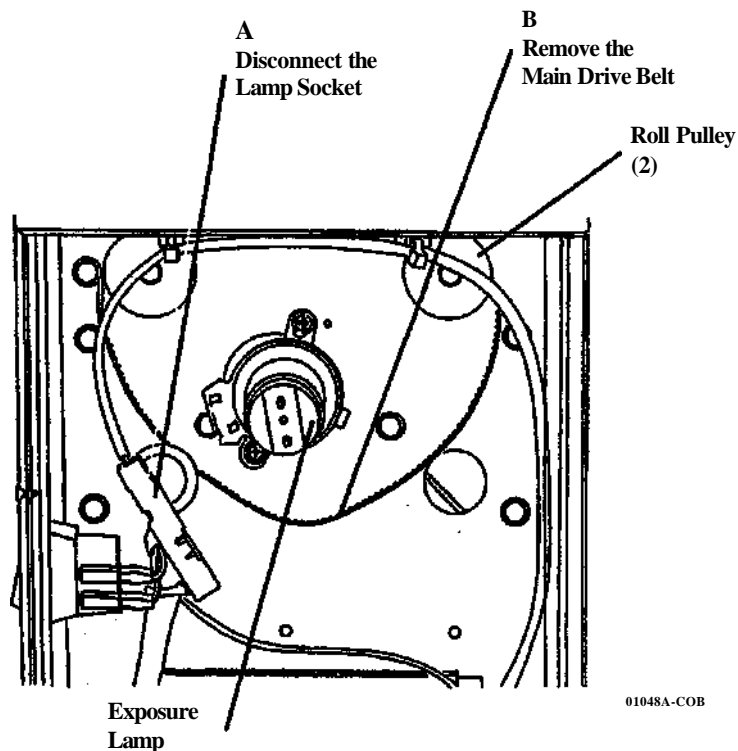

Figure 2. Removing the Main Drive Belt
3. (Figure 2): Perform the following additional steps to remove the Main Drive Belt:
1. (Figure 2): Install the Main Drive Belt over the two Roll Pulleys.